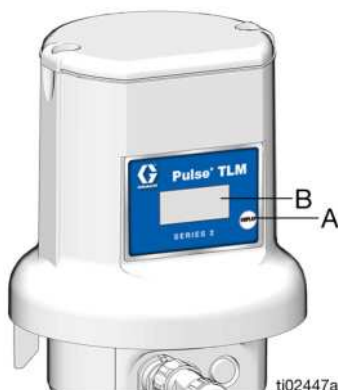

FIG. 2
3. Press and hold the Display button (A) until the display (B) reads REGISTER, then release (Fig. 2). This may take up to 20 seconds.